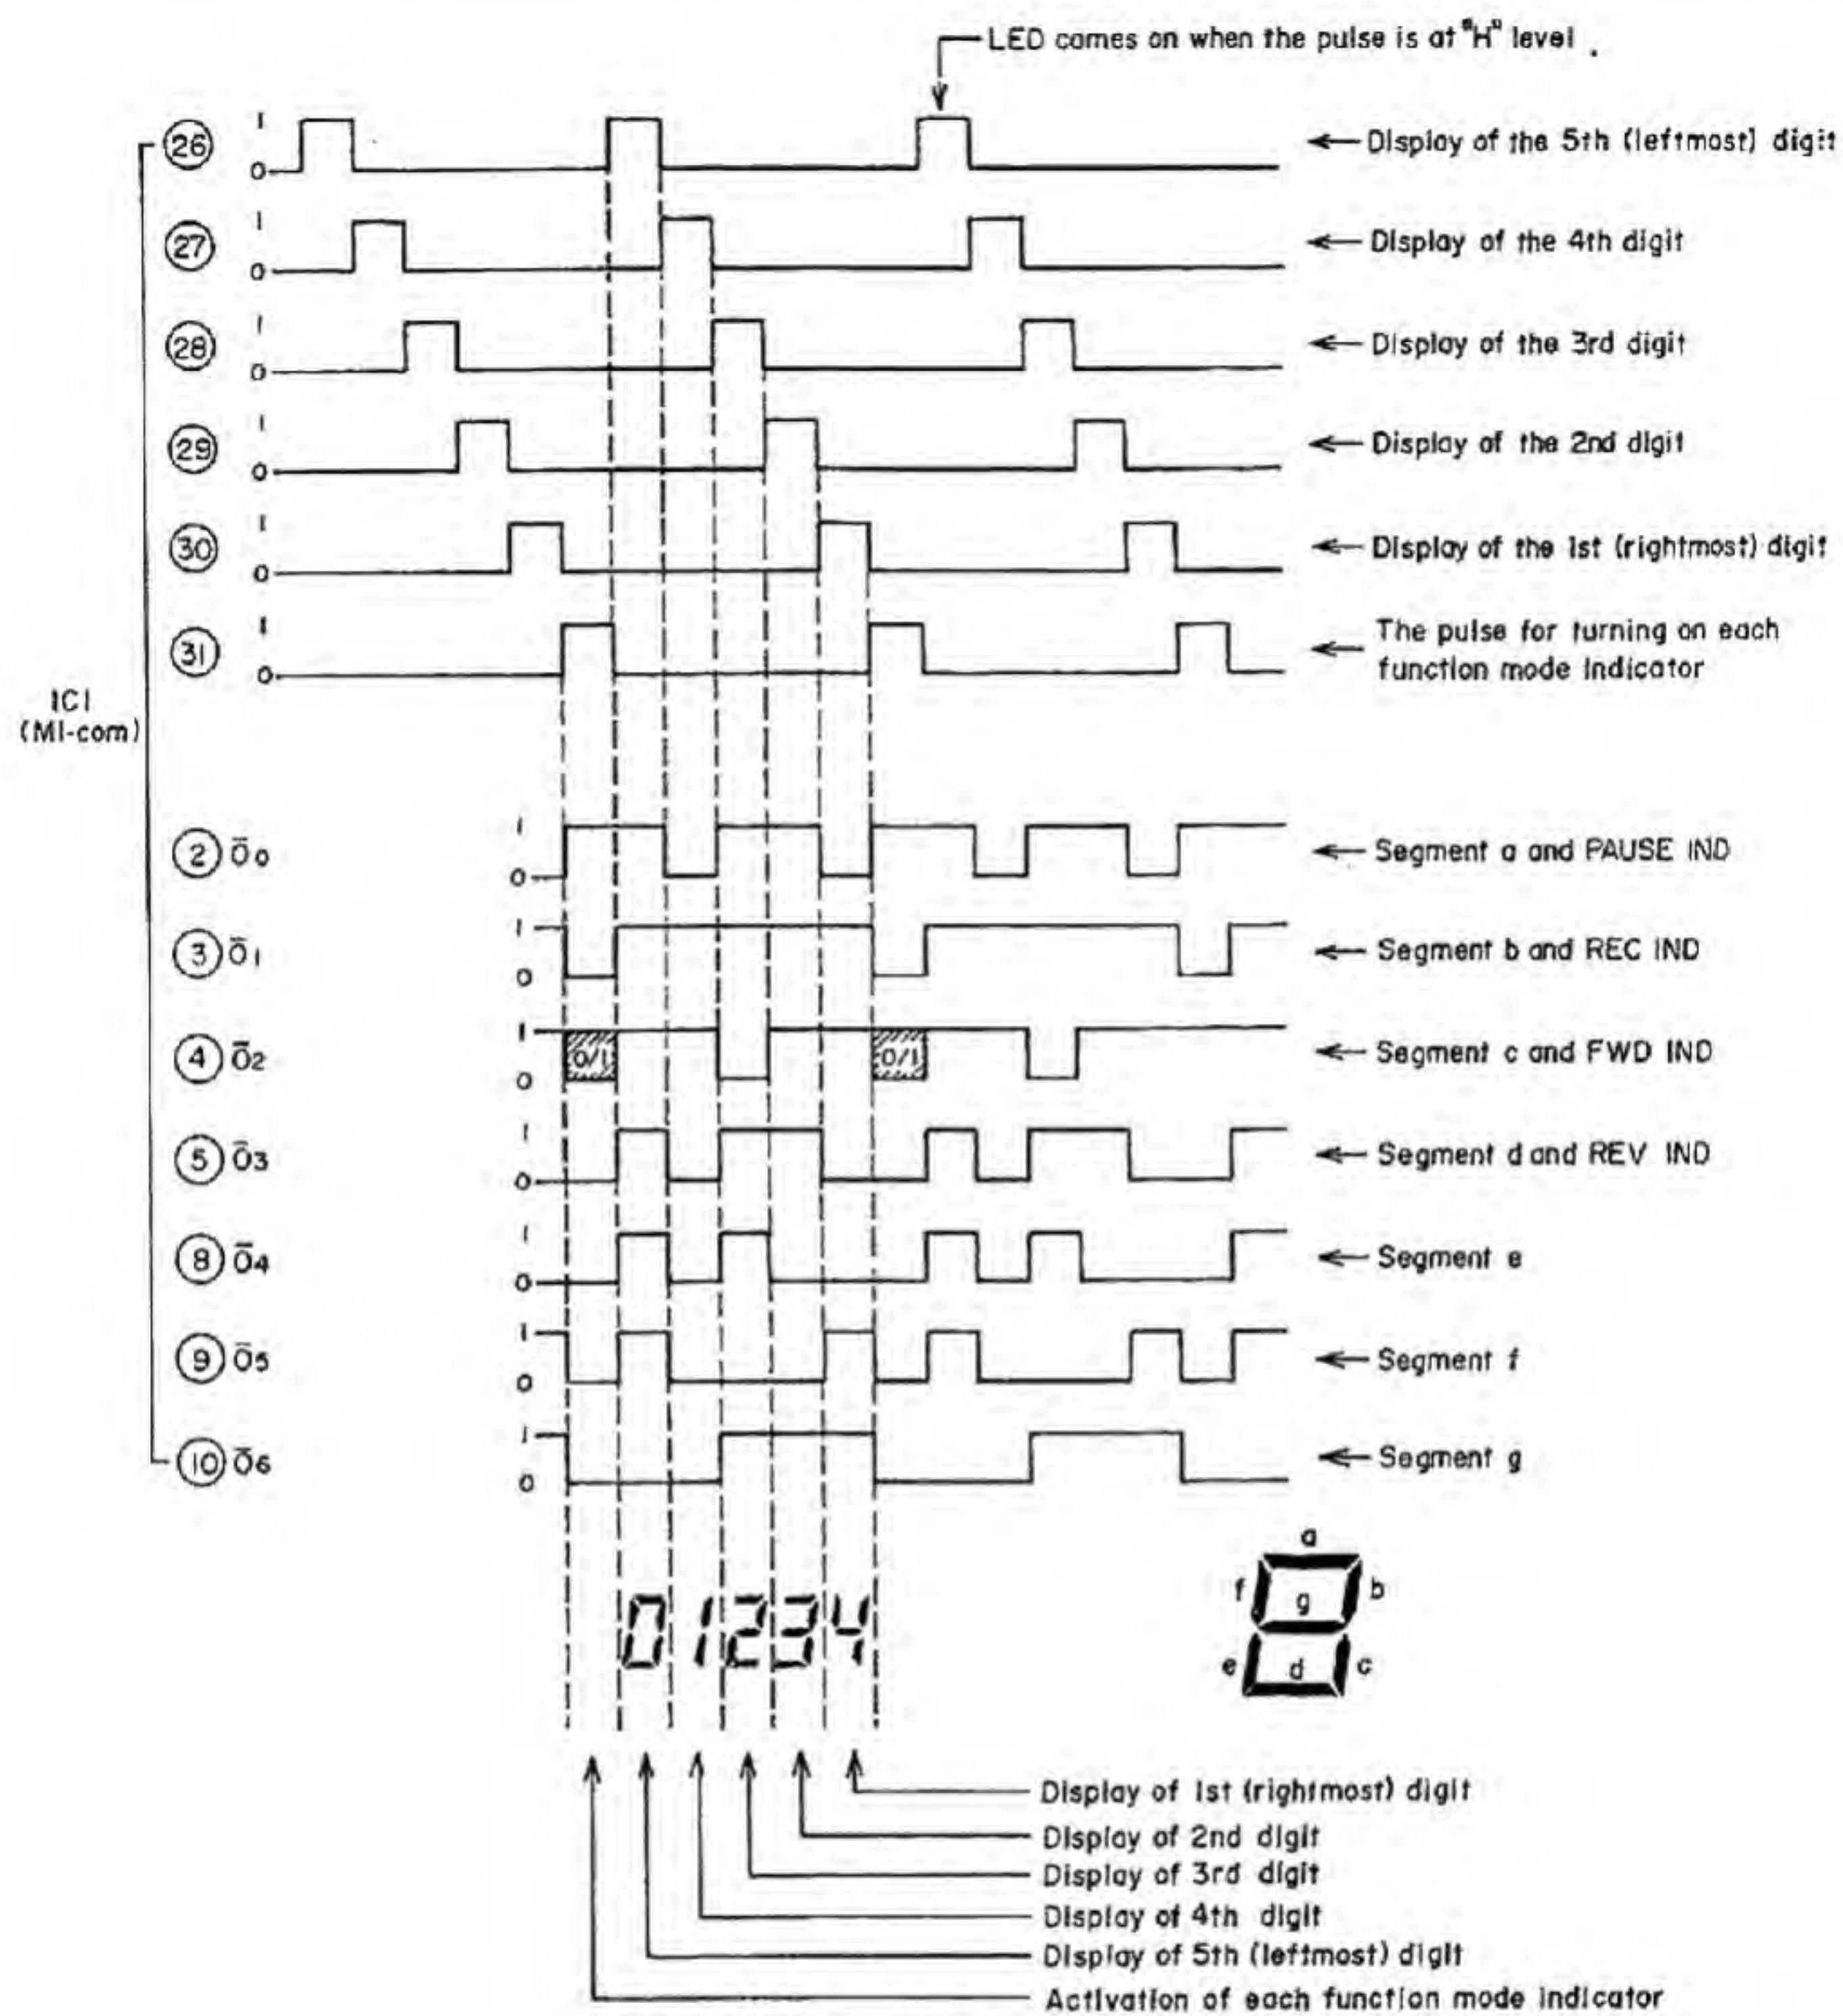

Fig. 23
Here we will explain about the situation in Fig. 23 (FWD PLAY/PAUSE) as one example. Hereinafter FWD PLAY is just written as PLAY. Under PLAY/PAUSE, PAUSE of the function mode indicator is always lit and PLAY is flashing. Firstly, refer to the vertical row of the function mode indicators of O0 - O3 in Fig. 23. You will note that PAUSE IND has "H" level, PLAY IND has "L/H" flashing and others have "L" level.
Fig. 23 shows the timing chart. By means of the waveforms of IC (26) - (30) coming from the microcomputer, the lighting position of LED of each digit is moved in sequence. Take the example of the first digit.
tion of $\bar{O}0 - \bar{O}6$ of the first digit indication in Fig. 23, b, c, f, and g segments are lit and a, d and e segments are dark. In this condition, the indicator indicates 4. Similarly if we look at the 2nd - 5th digits, [01234] is indicated in the condition of Fig. 23.